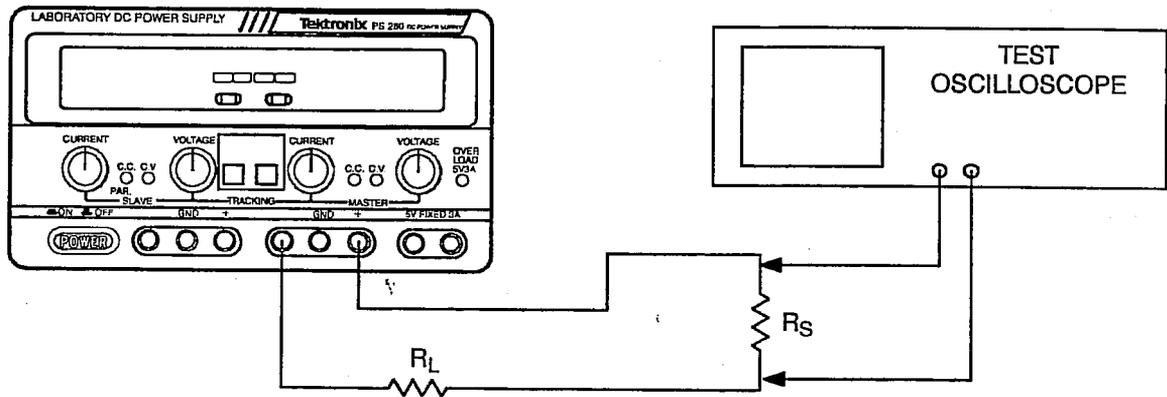

Figure 4-2: Constant Current Ripple and Noise Test Setup
- Connect the test oscilloscope and load resistors to the + and - terminals of the Master output as indicated in Figure 4-2. See Table 4-3 for the appropriate values of the load resistors.
- Connect the test oscilloscope and load resistors to the + and - terminals of the Slave output as indicated in Figure 4-2. See Table 4-3 for the appropriate values of the load resistors.